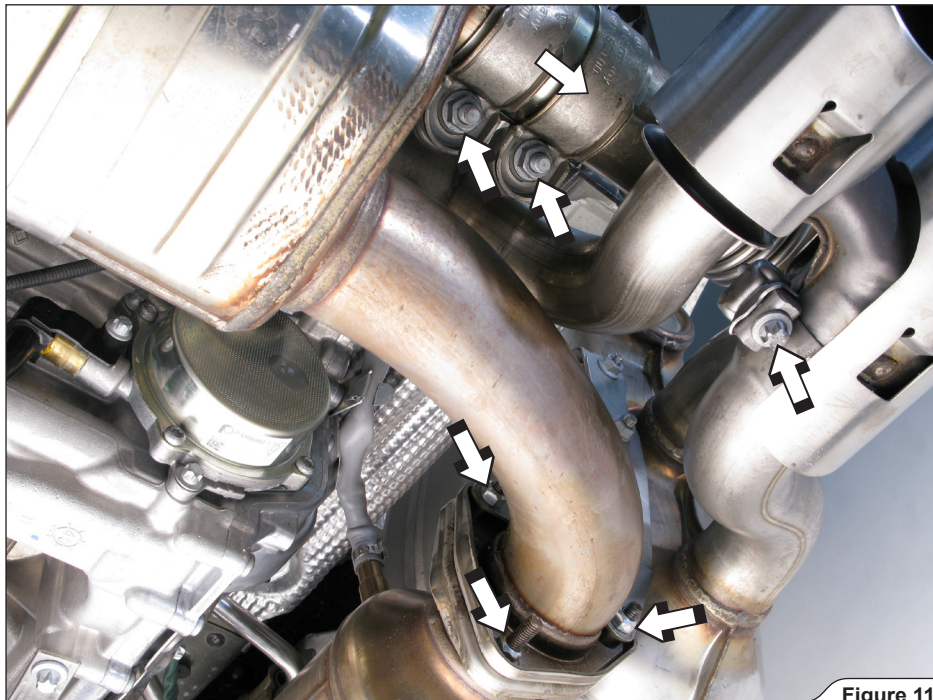

Figure 11
- Loosen the clamp and remove the tail pipes, loosen the double clamp and slide it out off the joint and unscrew the three marked nuts (**Figure 11**). Repeat the procedure on both sides of the vehicle.